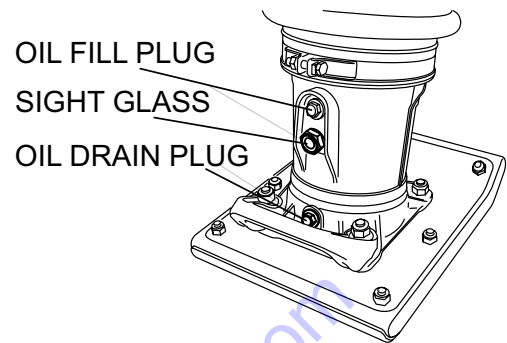

Figure 14. Oil Drain Plug
- Remove the oil drain plug on foot housing (Figure 14) and drain the oil. Refill with approximately 0.37 qt. (0.35